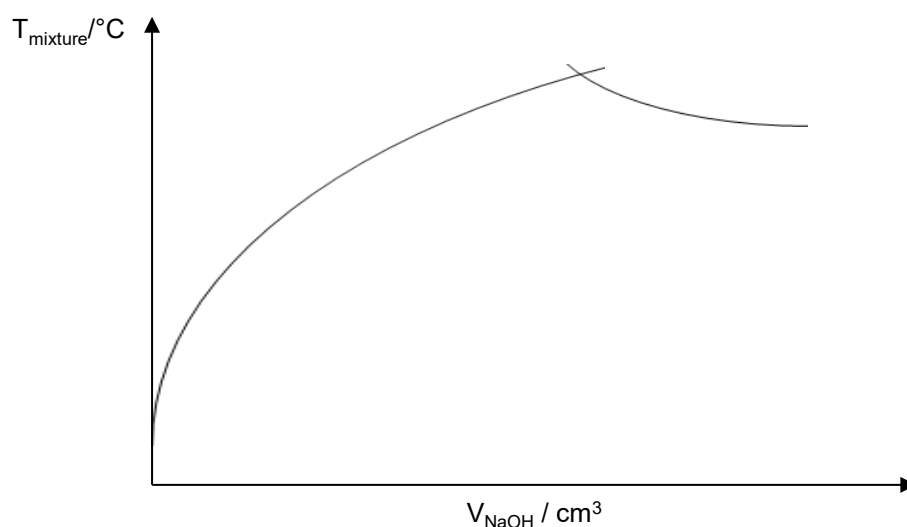

Fig 3.1
The graph of temperature against volume of sodium hydroxide obtained is shown in Fig 3.1.
- (ii) Explain how the graph in Fig 3.1 would be used to determine the concentration of sulfuric acid in the wastewater sample.
- (iii) The shape of the two best fit lines in Fig 3.1 are described below. Explain the shape of each best fit line.